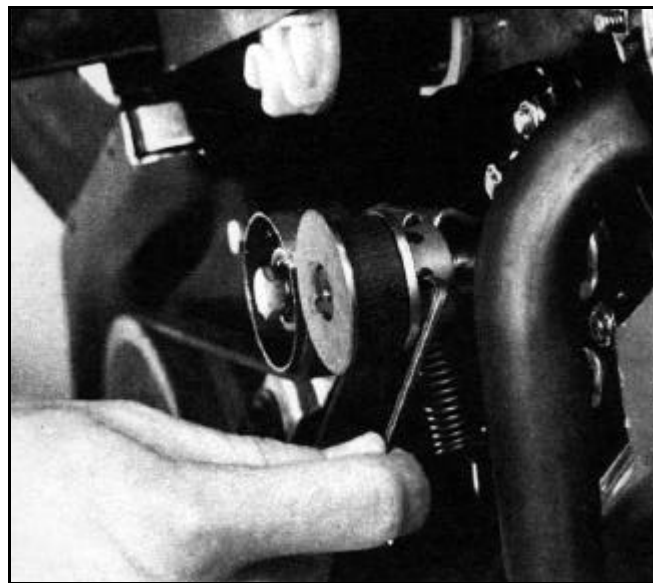

Figure 62
2. Loosen the two allen head screws on the crankshaft pulley (Figure 62).
2. Loosen the two allen head screws on crankshaft pulley. Slide pulley off crankshaft (Figure 62).